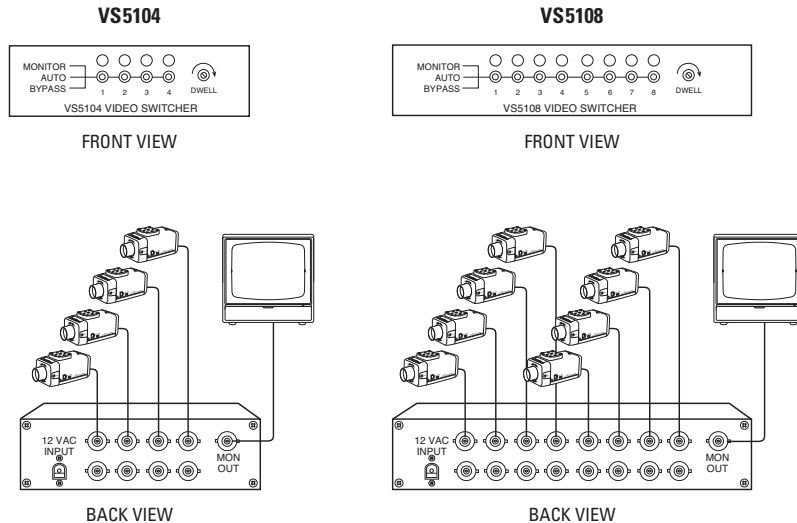

Figure 2. VS5104/VS5108 System Configuration
2. Connect all equipment for your system to the connectors located on the back of the unit. Refer to Figure 2.